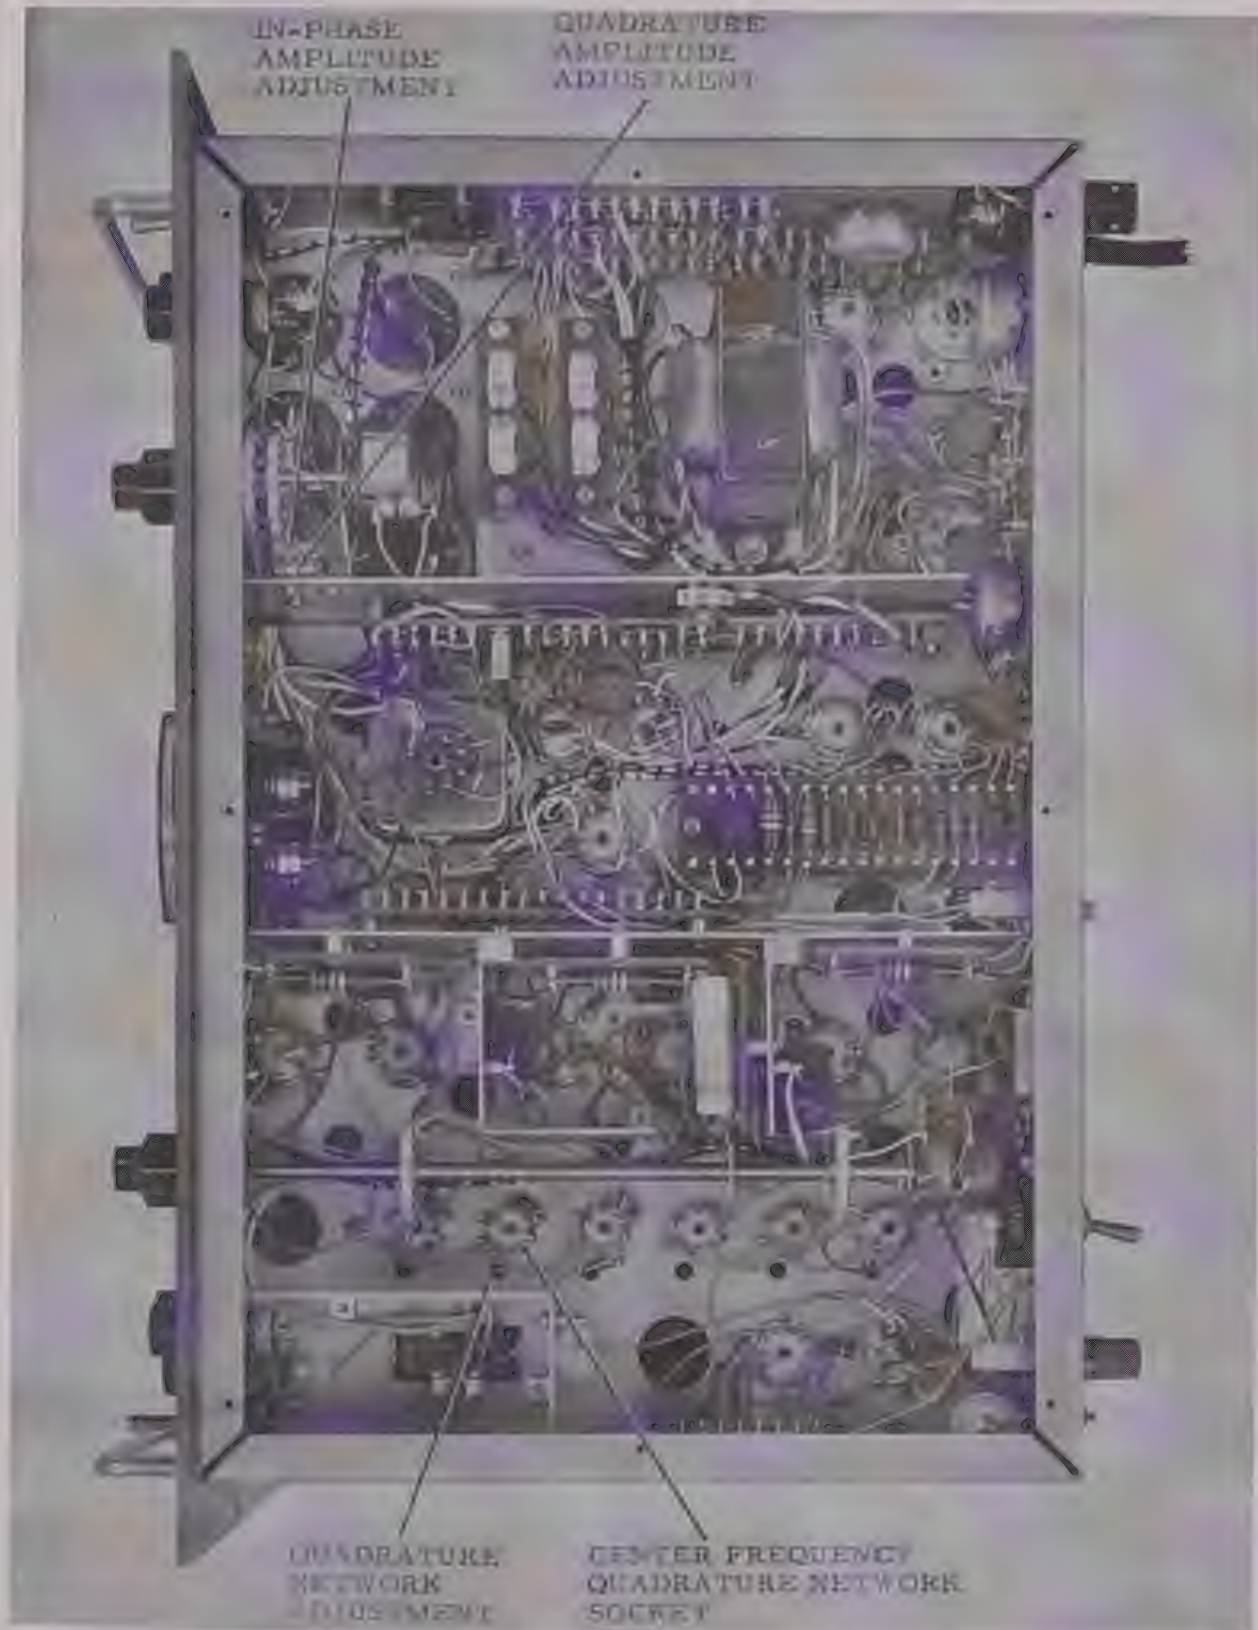

Figure 1-19. Quadrature Network Adjustment
h. Slide variable phase standard A101 forward until quadrature network screwdriver adjustment is accessible (see figure 1-19).
e. Remove the bracket which secures the quadrature network in place. (See figure 1-19 for location of network.)
q. Slide variable phase standard A101 until the amplitude adjustment resistors are accessible (see figure 1-19).